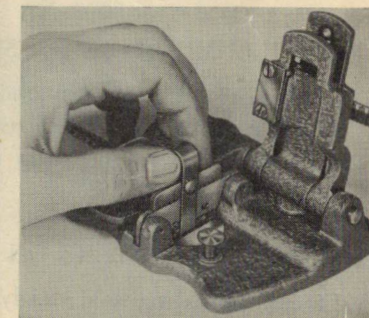

Fig. 15
6. Dip one end of felt pad into water for moistening film protruding beyond left arm, and scrape all emulsion from this film portion with scraper, by sliding back and forth. Wipe off all scrapings with other end of felt pad. Make sure surface of film is clean and DRY before applying cement. (see Fig 15)